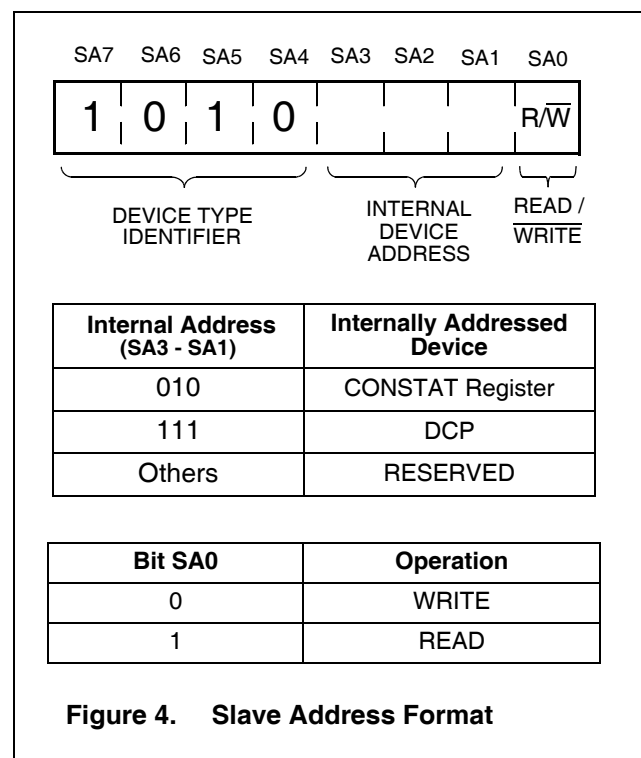
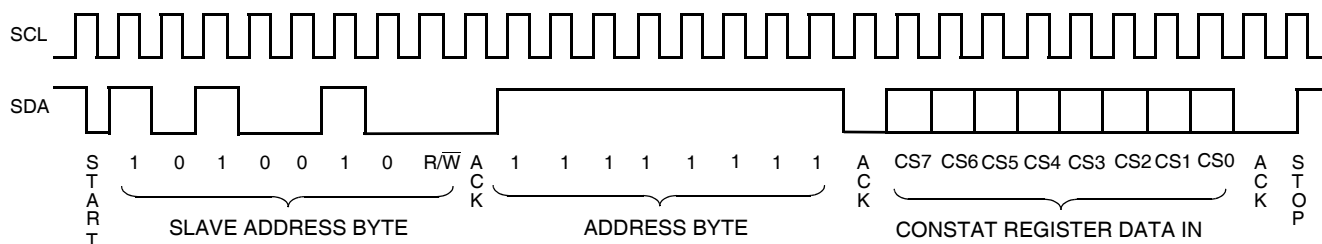

Figure 4. Slave Address Format
Figure 12. CONSTAT Register Write Command Sequence
Following a START condition, the master must output a Slave Address Byte (Refer to Figure 4.). This byte consists of three parts:
—The Least Significant Bit of the Slave Address (SA0) Byte is the R/W bit. This bit defines the operation to be performed on the device being addressed (as defined in the bits SA3 - SA1). When the R/W bit is “1”, then a READ operation is selected. A “0” selects a WRITE operation (Refer to Figure 4.)
Writes to the WEL bit do not cause an internal high voltage write cycle. Therefore, the device is ready for another operation immediately after a STOP condition is executed in the CONSTAT Write command sequence (See Figure 12).
- After a successful write operation to any bits of the CONSTAT register has been completed (See Figure 12).
The CONSTAT register is accessed using the Slave Address set to 1010010 (Refer to Figure 4.). Following the Slave Address Byte, access to the CONSTAT register requires an Address Byte which must be set to FFh. Only one data byte is allowed to be written for each CONSTAT register Write operation. The user must issue a STOP, after sending this byte to the register, to initiate the nonvolatile cycle that stores the DWLK bit. The X9522 will not ACKNOWLEDGE any data bytes written after the first byte is entered (Refer to Figure 12.).